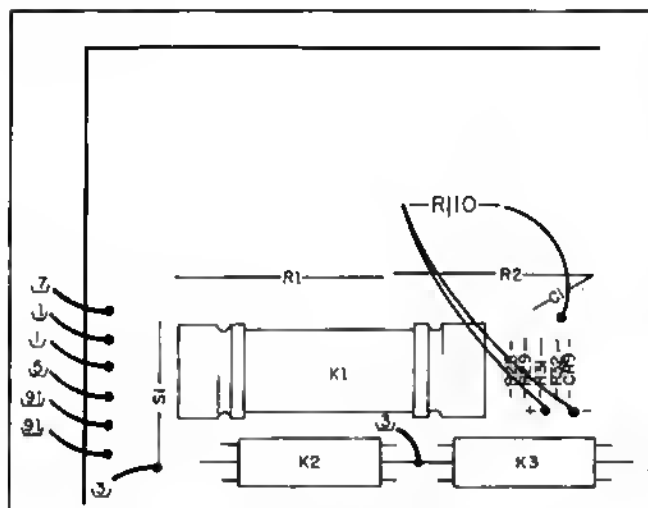

Figure 5-2. 1 Volt Zero Adjustment.
k. Remove the top covers and note the value of A10R106 – if there is an R110 installed (see Figure 5-2). Refer to Table 5-1 and record the Offset Voltage that corresponds to the current value of A10R110: _____. (If there is no A10R110, record 0.000000 V.) If R110 is connected to the terminal marked “+”, the polarity of the Offset Voltage is *negative*; if R110 is connected to the terminal marked “-”, the polarity of the offset is *positive*.
n. Remove the original A10R110 (Figure 5-2). If the total offset (Step l) is positive, connect the new R110 between the unmarked terminal and the terminal marked "-"; if the total offset is negative, connect it between the unmarked terminal and the terminal marked "+".